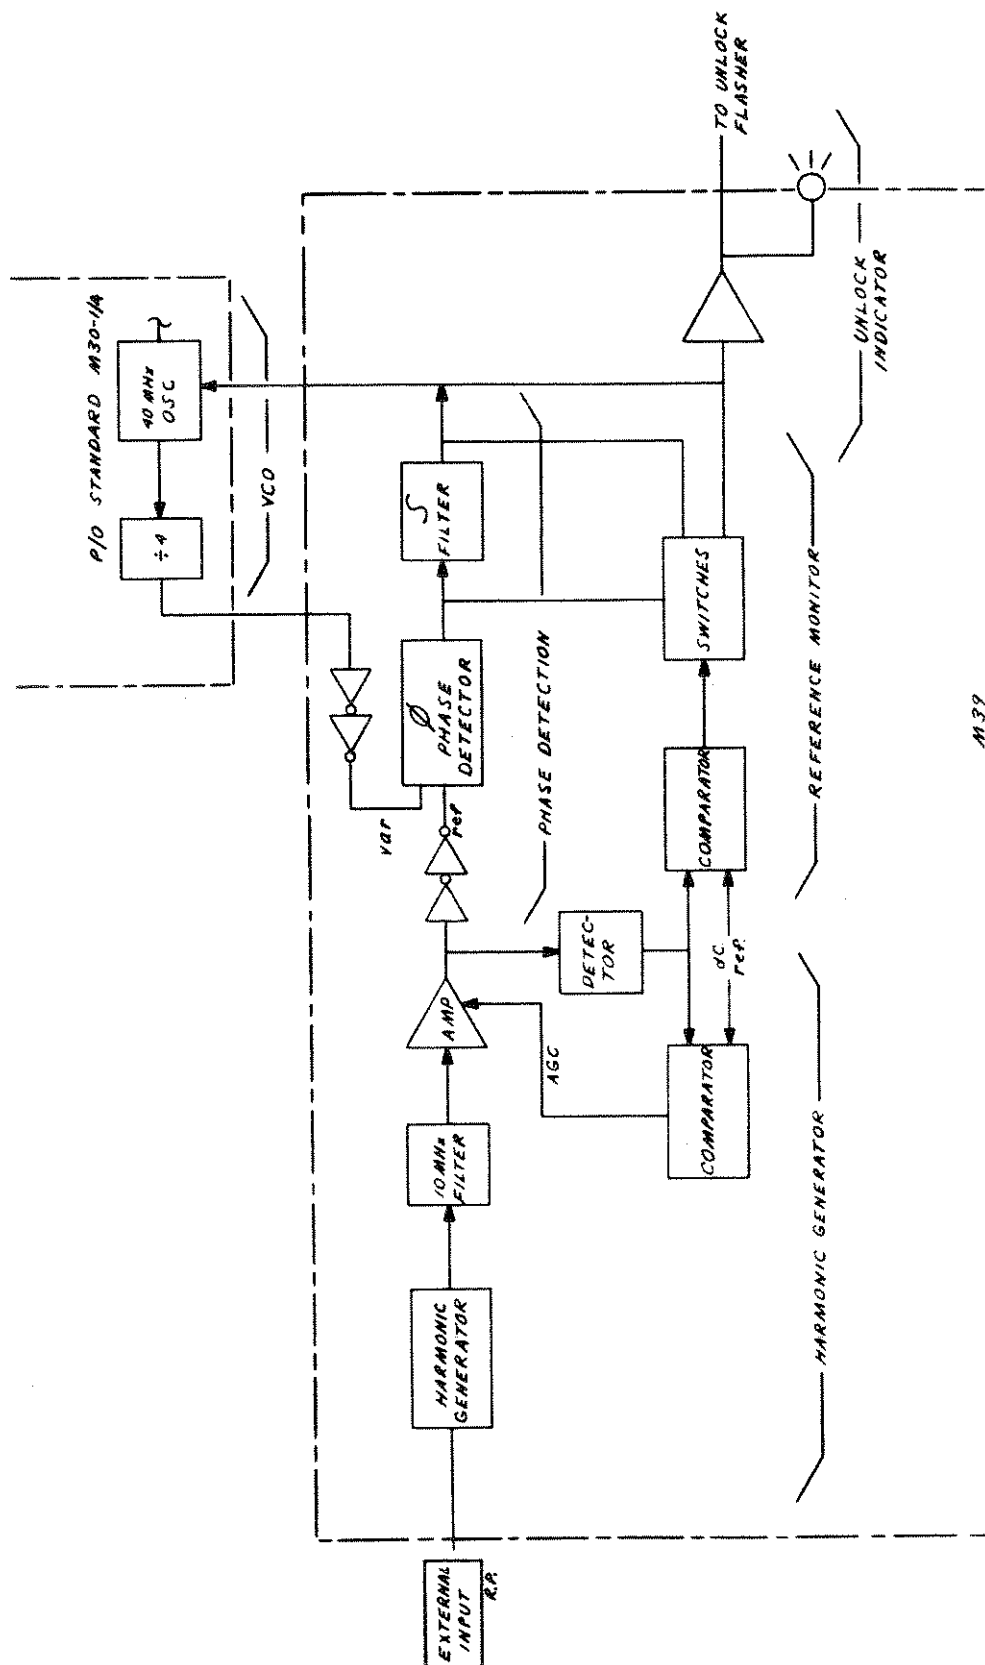

Figure 8/5-1. Block Diagram
Refer to Figure 8/5-1 for a block diagram of the circuit.
This option extends the low-frequency limit from 1 MHz to 1 kHz. It consists of a Down Converter Module M215, a DC-coupled Reverse Power Protection Module M35-8 to replace the standard AC-coupled M35-9, three RF cables, and a software change. The software change is accomplished by replacing IC2, IC3, and IC4 on the RF Microprocessor Card and IC1, IC2, IC3, and IC4 on the I/O Microprocessor Card. The M215 module is installed in the location indicated in Figure 8/8-2. Cable W2 is removed and replaced with cables W2B and W2C. Cable W22 is installed as shown. This cable supplies a 10 MHz TTL signal to the M215 module. A simplified block diagram of the M215 is shown in Figure 8/8-1.
See Figure 8/8-2. Control R18 enables the output level of the down-converter signal to be adjusted to the same level as the 1 MHz output signal.
3. Refer to Figure 8/8-2, and install module M215 using #6-32 x 5/16" screw.
5. Replace M35-9 (item 12) with M35-8 module.